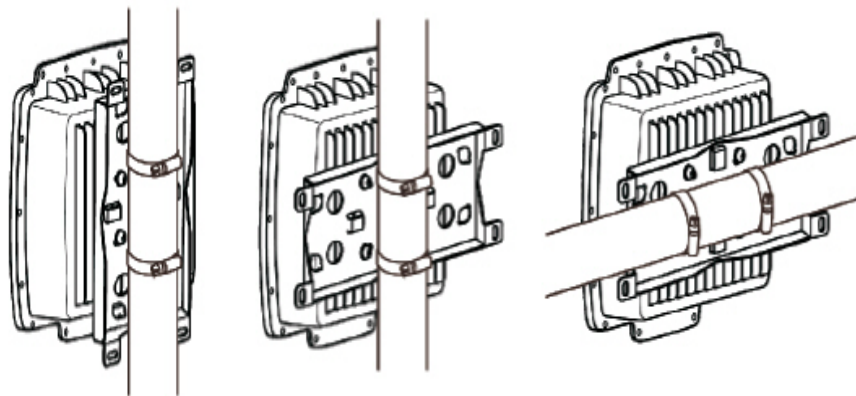

Figure 5-5. X1 Outdoor Router Pole Mount
3. Mount the assembly to the pole using the two stainless steel tie back straps as shown in Figure 5-5 (various mounting options are shown).